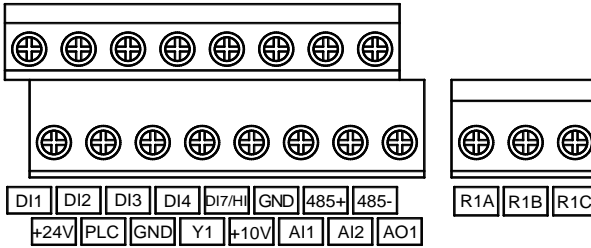

Figure 2-28a PV150A & PV150I(0.4~1.5kW) Control Circuit Terminals
**A: Control circuit A (Fig2-28a)**